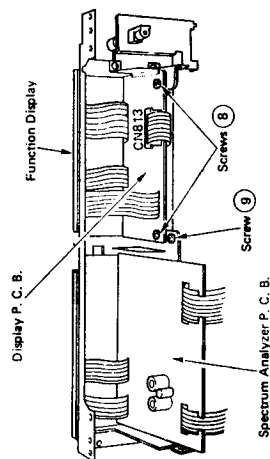

Fig. 8
- 2) Remove two display P. C. board fixing screws (8) shown in Fig. 8.
- 1) Remove screw (9) shown in Fig. 8.